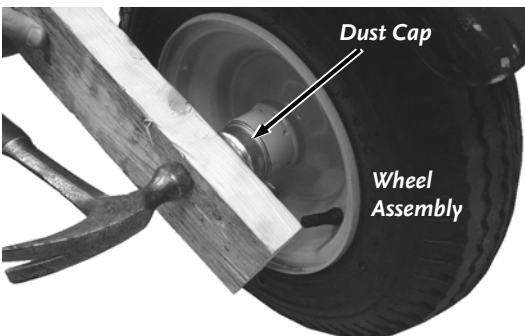

Figure 60
16. Place the Dust Cap onto the Wheel Assembly and secure it by placing a piece of wood over it and pounding lightly with a hammer until it is against the lip (**Figure 60**).